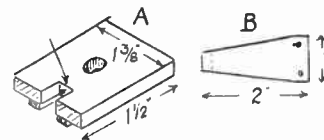

Fig. 3—The bulb holder and switch arm
Now cut a piece of 3/4 in. wood to the size given at (A) in Fig. 3. Where shown by the arrow, cut out a slot, 1/4 in. wide and 1/2 in. deep, and in the centre
A switch arm (B) Fig. 3, is cut from springy metal. To the screw contacting the threaded portion of the bulb, connect a piece of D.C.C. copper wire. The switch arm is screwed over the slot in (A), and the free end of the wire, leading from the screw, soldered to it, or twisted under the head of one of the screws holding the switch arm in